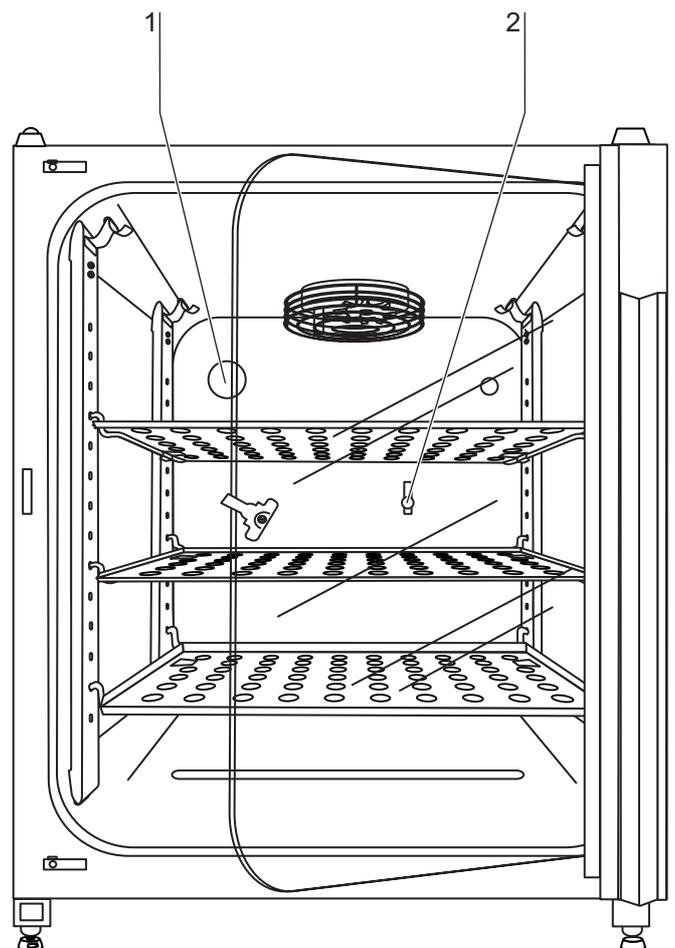

Fig.20: CO2 calibration
3. **Fig.20:** Route the measuring instrument either through the measurement opening [2] in the glass door or through the access port [1] at the rear panel of the device. Wait until the CO2 value displayed by the instrument has stabilized.